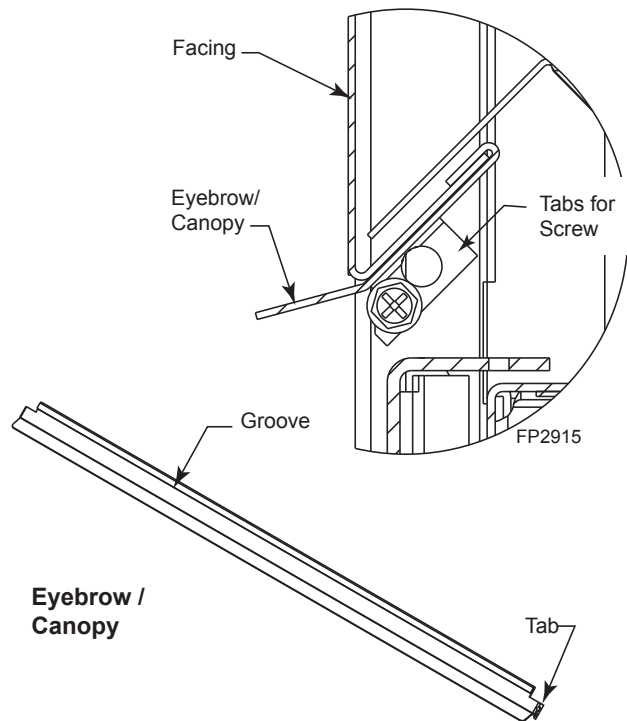

Figure 63
2. Hold eyebrow/canopy with groove facing up and tabs for screws facing down. *Figure 63*
3. Install by placing eyebrow under bottom lip of facing. Hook bottom lip of facing into groove of eyebrow. Pull eyebrow forward until it stops. *Figure 63*